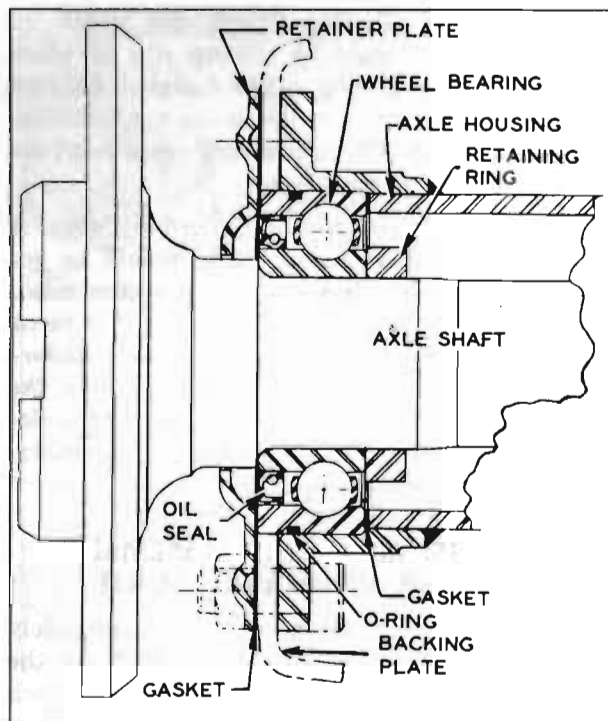

Figure 6-9—Axle Shaft and Bearing Assembly
1. Install new gasket at bearing shoulder in housing. Also install new O-ring seal in groove around outside of bearing. See Figure 6-9.